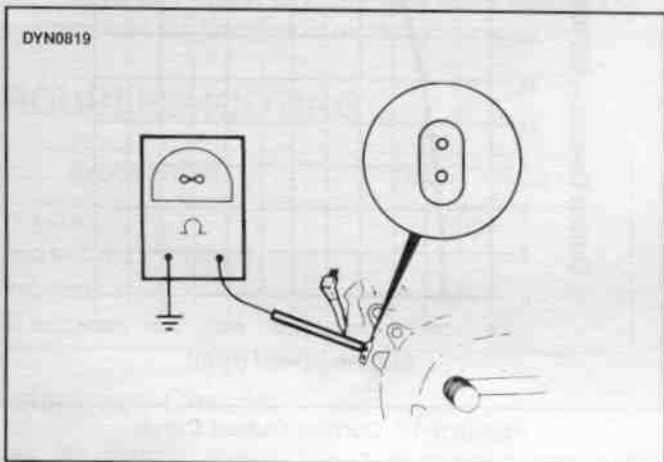

Figure 8-19. Test for Grounded Stator
2. See Figure 8-19. Connect an ohmmeter on the RX1 scale between crankcase and either stator socket. There should be no continuity (∞ ohms) across either test point. Any other reading indicates a grounded stator which must be replaced.